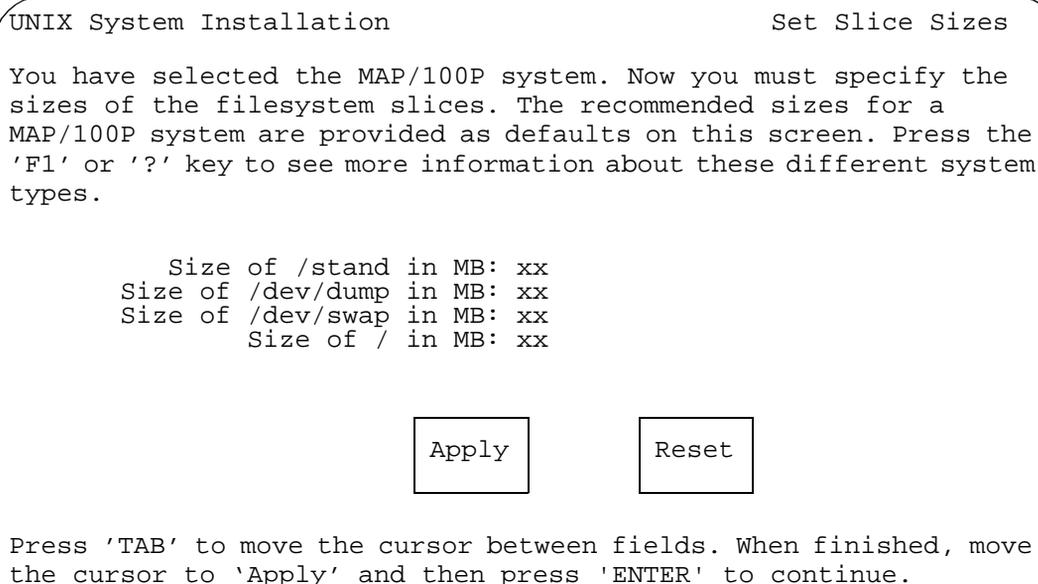

Figure 7-12. UnixWare Installation Set Slice Sizes Screen
The system displays the UnixWare Installation Set Slice Sizes screen (Figure 7-12).
1. Starting at the UnixWare Installation Set Slice Sizes screen (Figure 7-12), use the down **▼** arrow to move to the `Apply` field.